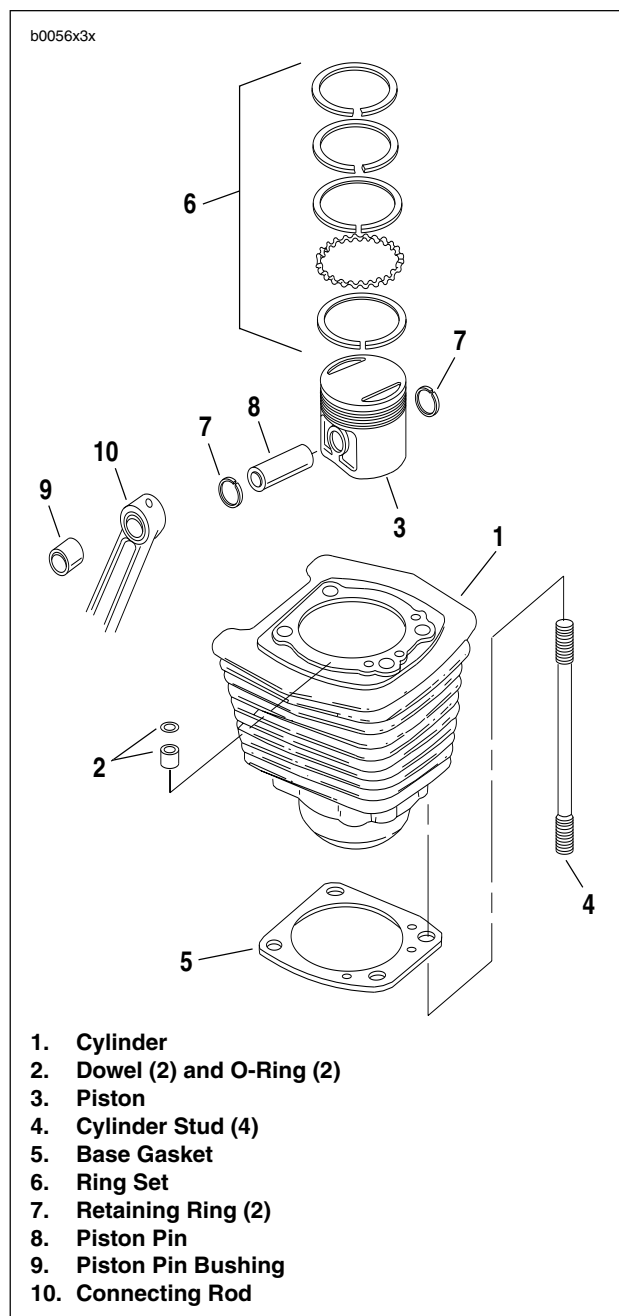

Figure 3-31. Cylinder and Piston
4. See Figure 3-31. Turn engine over until piston (3) of cylinder being removed is at bottom of its stroke.
5. Carefully raise cylinder (1) just enough to permit placing clean towel under piston to prevent any foreign matter from falling into crankcase.
10. See Figure 3-31. Spread piston rings (6) outward until they clear grooves in piston (3) and lift off.